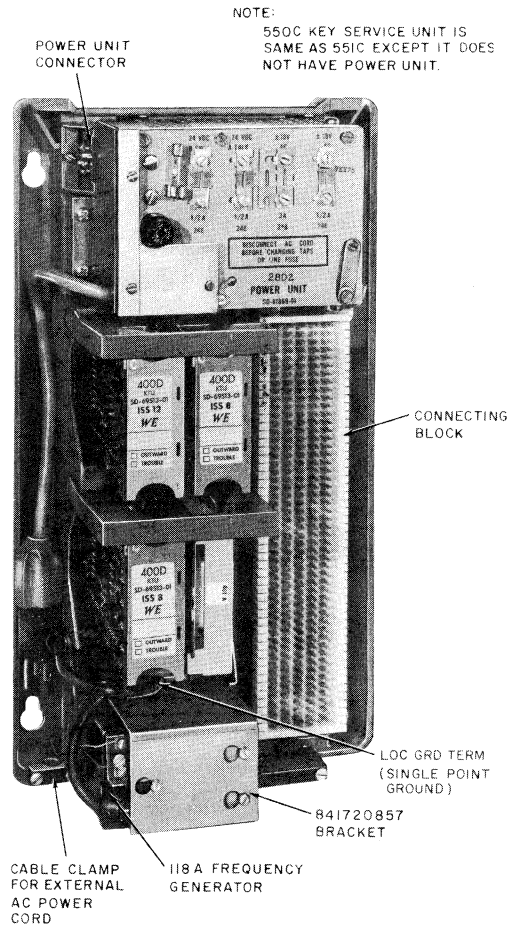

Fig. 1—551C KSU With Frequency Generator
(a) **Basic Units (Fig. 1):**
- (c) **551A KSU (MD):** Connect the external power cord to the power unit cord through the cutout in the bottom of the KSU case.
- (a) Attach the generator to the mounting bracket (841720857) with the three screws supplied (Fig. 1). Snap the pins of the bracket arms into the holes in the backboard flanges of the KSU. Let the generator rest against the front of the interrupter with its power cord to the left. Connect the feed-through type plug to the external ac power cord and, if the KSU is a 551C, to the power unit cord.